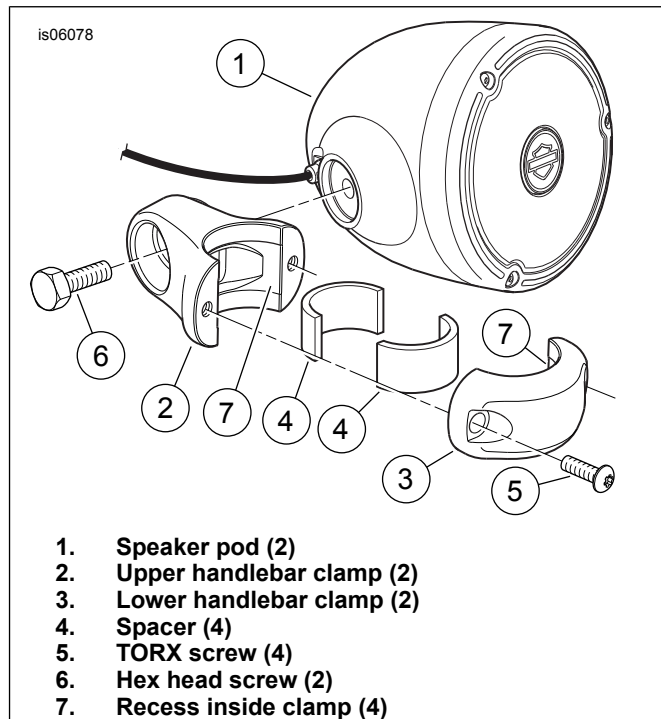

Figure 3. Handlebar-Mounted Speaker Installation
- See Figure 3. Obtain the following items from kit:
- Speaker pod assembly (1)
- Two upper handlebar clamps (2)
- Two lower handlebar clamps (3)
- Four spacers (4)
- Four screws (5)
- Two screws (6)